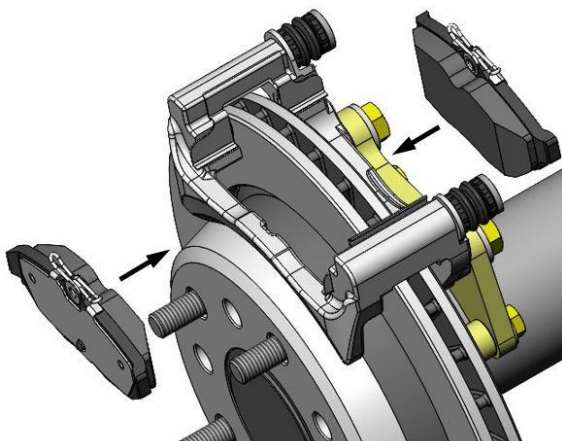
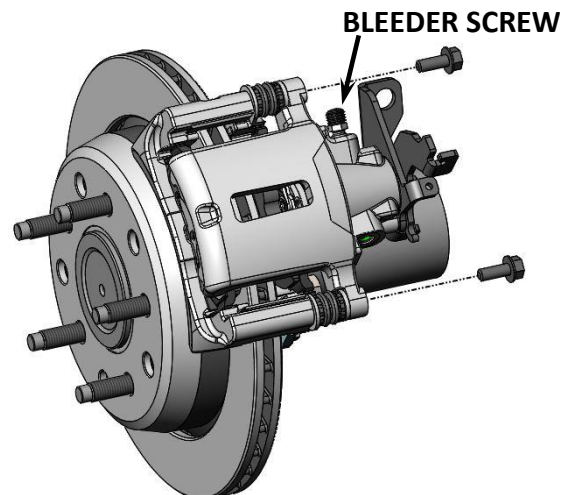

Figure 8a – Brake Pad Installation
Figure 8b - Caliper Installation and Bleeder Screw Orientation
- With the Abutment Clips installed, install the pads into the Caliper Anchor Bracket. Refer to Figure 8a below for reference. Once the pads are installed slide the caliper body over the brake pads and Caliper Anchor Bracket. With the caliper in place, re-install the caliper mounting bolts between the caliper and the bracket. Torque the bolts to 30 lb/ft. **IMPORTANT:** Make sure that the bleeder screw is pointing upward. See Figure 8b below for reference on installing the caliper.